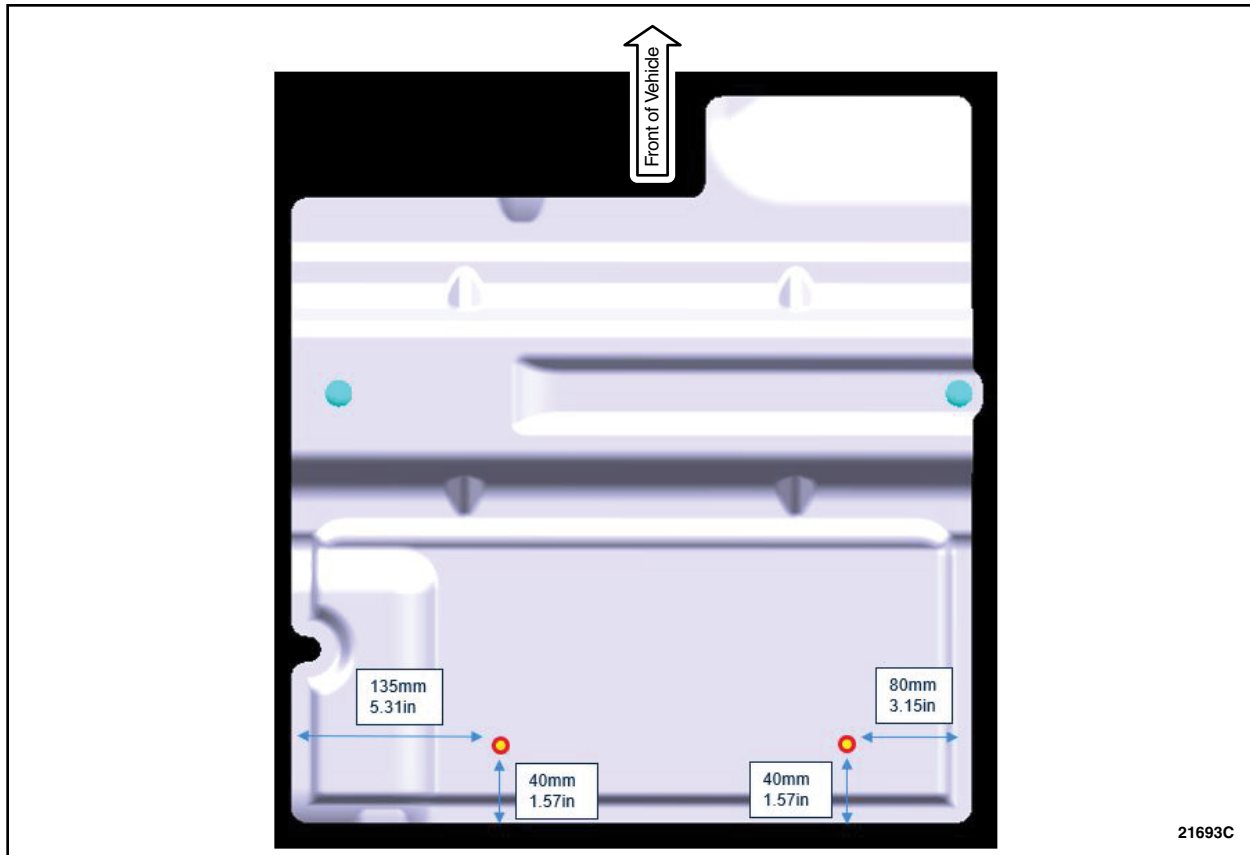

FIGURE 12
10. Measure and mark the two locations on the underbody insulator. See Figure 12.